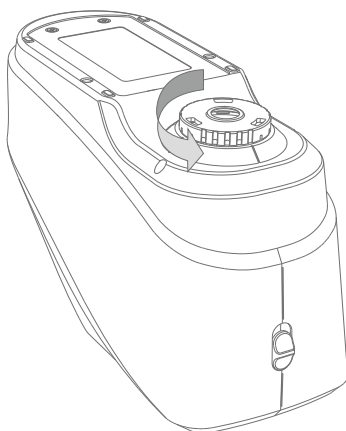

Figure 53 Measuring Aperture Assembling
Step 1, as shown in Figure 53, rotate the measuring aperture anticlockwise, remove the original aperture; Align the measuring aperture to be installed with the integrating sphere mounting hole and turn it clockwise. When there is a “click”, it means that the measuring aperture and the integrating sphere button position are well matched, that is, the measuring aperture is installed.